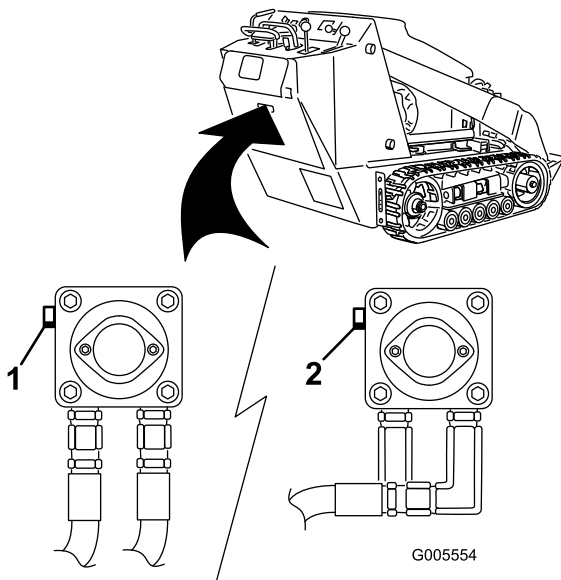

Figure 12
3. Using a wrench, turn the tow valves on the hydraulic pumps twice counter-clockwise (Figure 12).